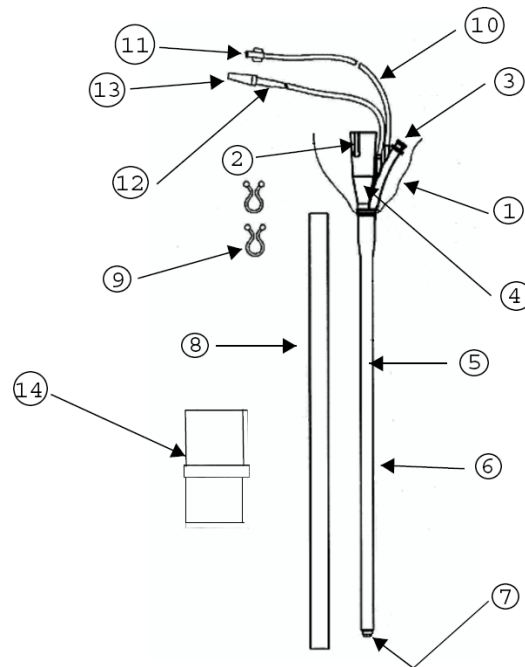

Figure 3-3: TV-2.1 Slide-On® EndoSheath® Technology
- The **TV-2.1 Slide-On® EndoSheath® Technology** (see Figure 3-3 on page 14). This Sheath contains a 2.1mm (6.3Fr) channel through which air insufflation and suction can be performed, or accessory instruments inserted.
The **TV-2.1 Slide-On® EndoSheath® Technology** shown in Figure 3-3 is a sterile, disposable barrier for the Cogentix Medical **TNE-5000** Flexible Video Esophagoscope. The Sheath isolates the endoscope from contact with patient fluid and material during the procedure.